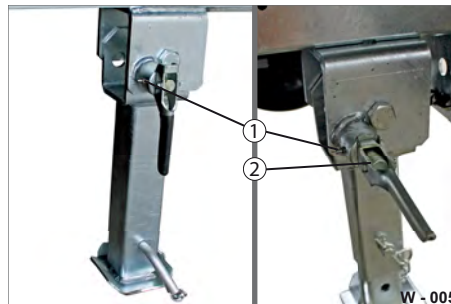

Fig. 5 Lubricating folding supports
- ▶ Clean the lubrication nipples (Fig. 5/1) with a clean, dry cloth.
- ▶ If necessary, remove fouling such as grass and twigs from the bearing points (Fig. 5/2).